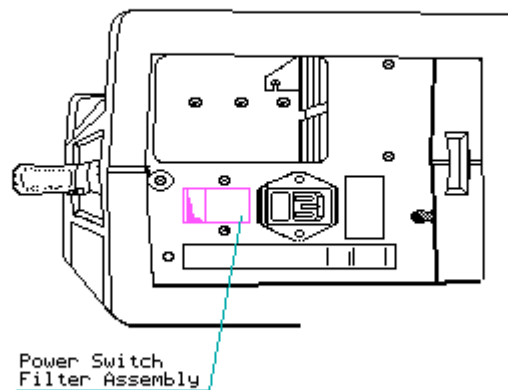

Figure 7.8-13. Power Switch Filter Assembly
2. Slide the access door panel open to expose the power switch filter assembly (Figure 7.8-13).